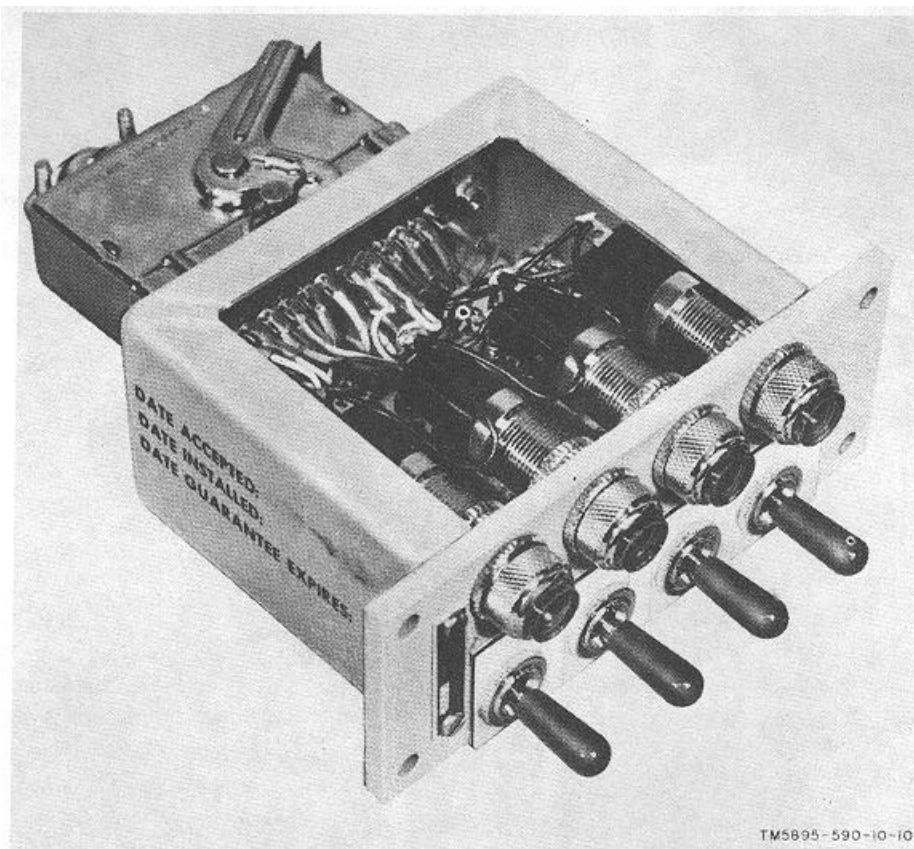

Figure 1-10. Frequency Selector, Transmitter SA-1609/FSQ-75(V)
(4) *Frequency Selector, Transmitter SA-1609/FSQ-75(V)* (fig. 1-10). The transmitter selector consists of four lever-type key switches and indicator lamps. A connector jack is mounted at the rear of the chassis. Transmitter selectors are mounted in groups of three (fig. 31) to control 12 transmitting channels.